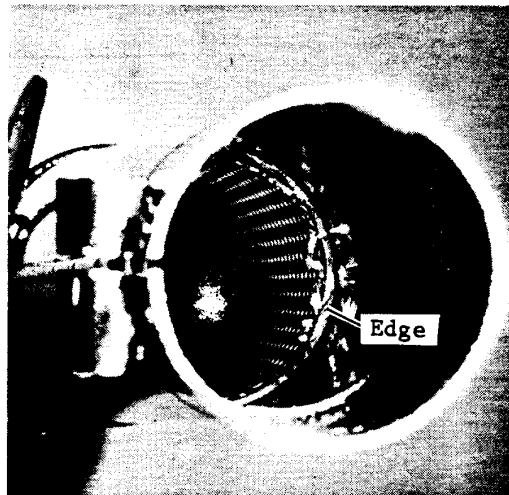

Figure 1. Baffle Edge
4. See Figure 1. From inlet end of muffler determine edge of baffle (approximately five (5) inches below muffler edge). Obtain a length of pipe or rod at least eight (8) inches long and a hammer. Using pipe to catch the edge of baffle, pound baffle out from inlet end of muffler alternating hammer blows from one side of baffle to the other until muffler tip comes off.